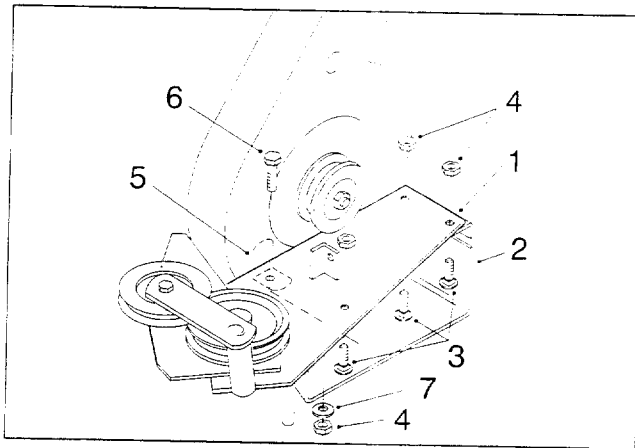

Figure 3
1. Install the blower mounting plate assembly to the blower housing using three $\frac{5}{16}$ " x $\frac{3}{4}$ " carriage bolts and $\frac{5}{16}$ " hex-head flange nuts (Fig. 3).
2. Install the L-shaped support bracket inside the blower housing using a 5/16" x 1" hex-head bolt, 5/16" flat washer and 5/16" hex-head flange nut (Fig 3). Do not tighten the flange nut.
3. Pull the L-shaped support bracket up tight against the inside wall of the blower housing and tighten the flange nut (Fig. 3).